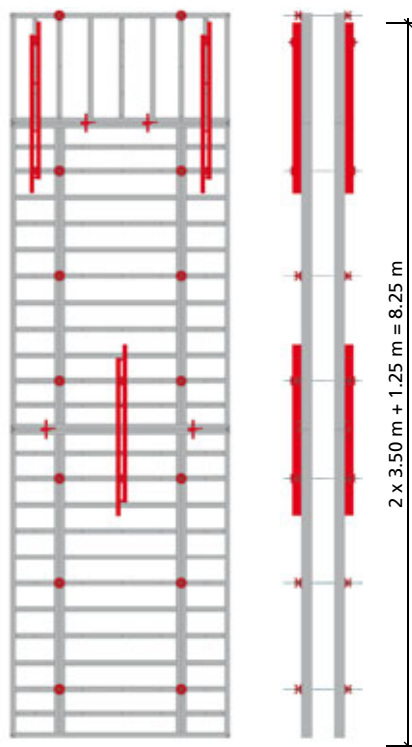
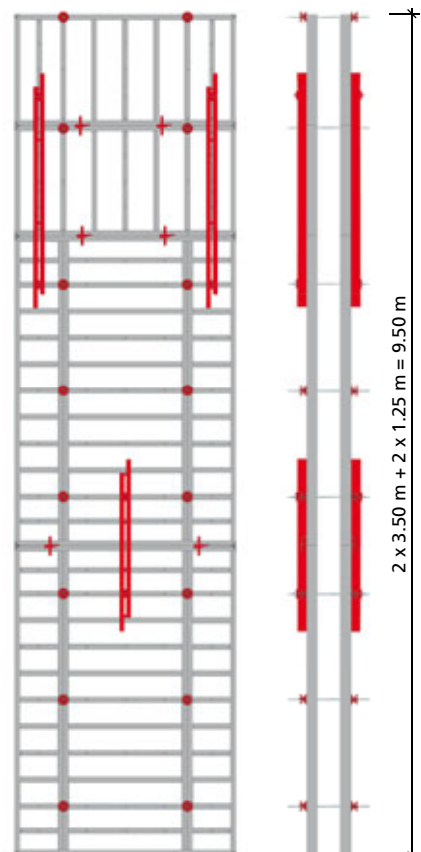

Fig. 34.3
Fig. 34.4
■ A formwork height of 8.25 m is achieved by extending a vertical M 350 panel with another vertical M 350 panel and a horizontal panel that is 1.25 m wide. For this configuration no ties need to be installed at the bottom tie holes of the top panel if using alignment rails (Fig. 34.3). The same is true when adding another panel with a width of 1.25 m in horizontal position for a total formwork height of 9.50 m (Fig. 34.4).